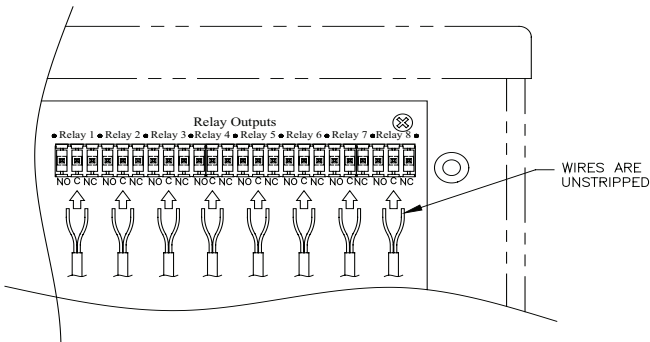

Figure 5: Relay Outputs
1. The terminal strip along the top right of the board has 8 relays. From left to right, the first three pins are Relay 1; the next three are Relay 2, etc. Each relay connection consists of a Normally Open (NO), Common Ground (cg), and Normally Closed (NC) contact. Whether the NO or NC connection is used depends on the device being connected. Refer to manufacturer's instructions for more information. See Figure 5.